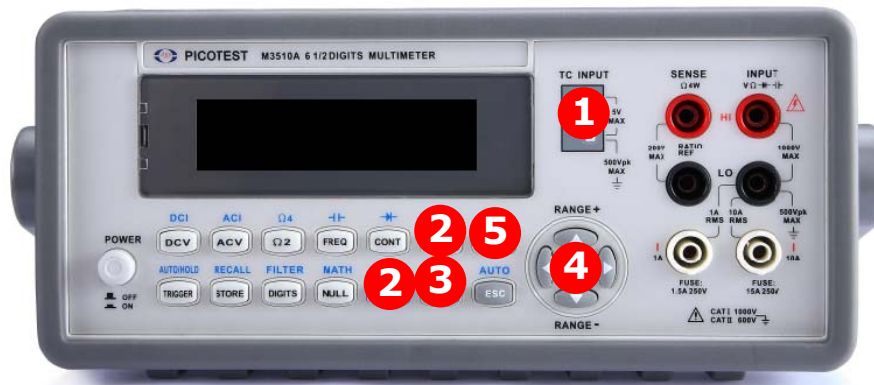

Figure 4-10
1. Select a type and match an adaptor correctly as shown in **Figure 4-10**.